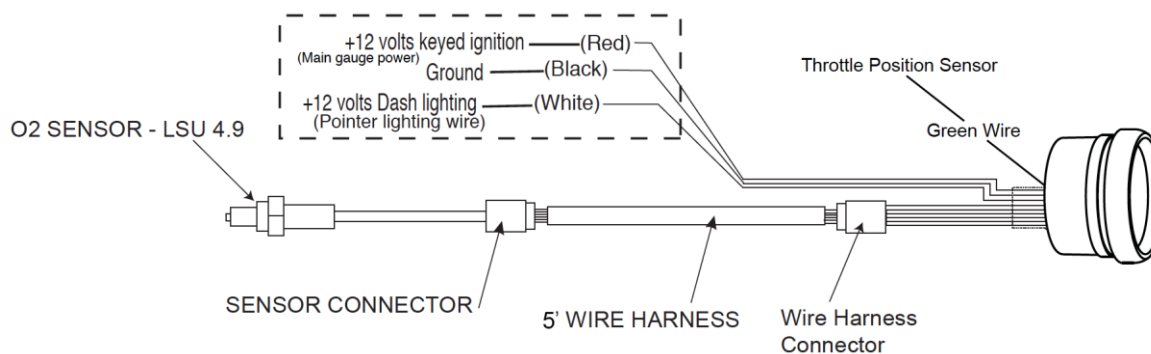

FIGURE 1
3. Connect power distribution wires to gauge. Install O2 sensor. Connect wires or harnesses (**Figures 1 and 2**).